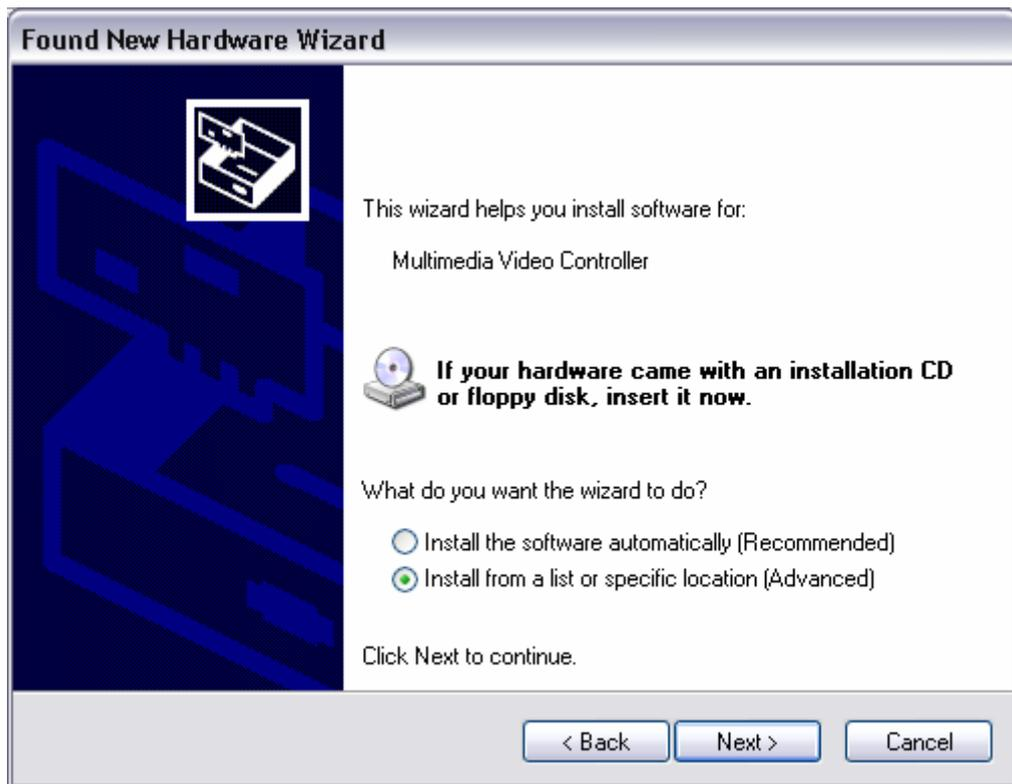

Figure 2.
3. Check the option and press “Next” button to install driver for “AISYS ALTAIR” as shown in Figure 2.